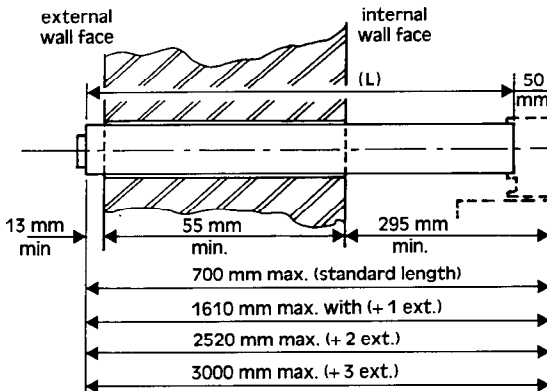

Fig. 3
The pump (21) circulates water which returns to the boiler via the return valve (31) which incorporates a filter (30). Before reaching the pump it passes through an air separator and air purger (17). The return water passes through the heat exchanger (2) where it is heated. It then passes through the change over valve (19) which in heating mode is in its rest position (fig. 3) and out via the flow valve (27) to the radiator circuits (34). The boiler thermostat (8) controls the temperature of the circulation water between a minimum of 50° C approx and a nominal maximum of 82° C. The boiler thermostat also controls the opening of the 1/3 (11) and variable solenoid valve (10).
Should the central heating water flow reduce to below 300 L/h (1,1 gal/min) the gas supply to the burner is turned off, see figs 3 & 4 (36).